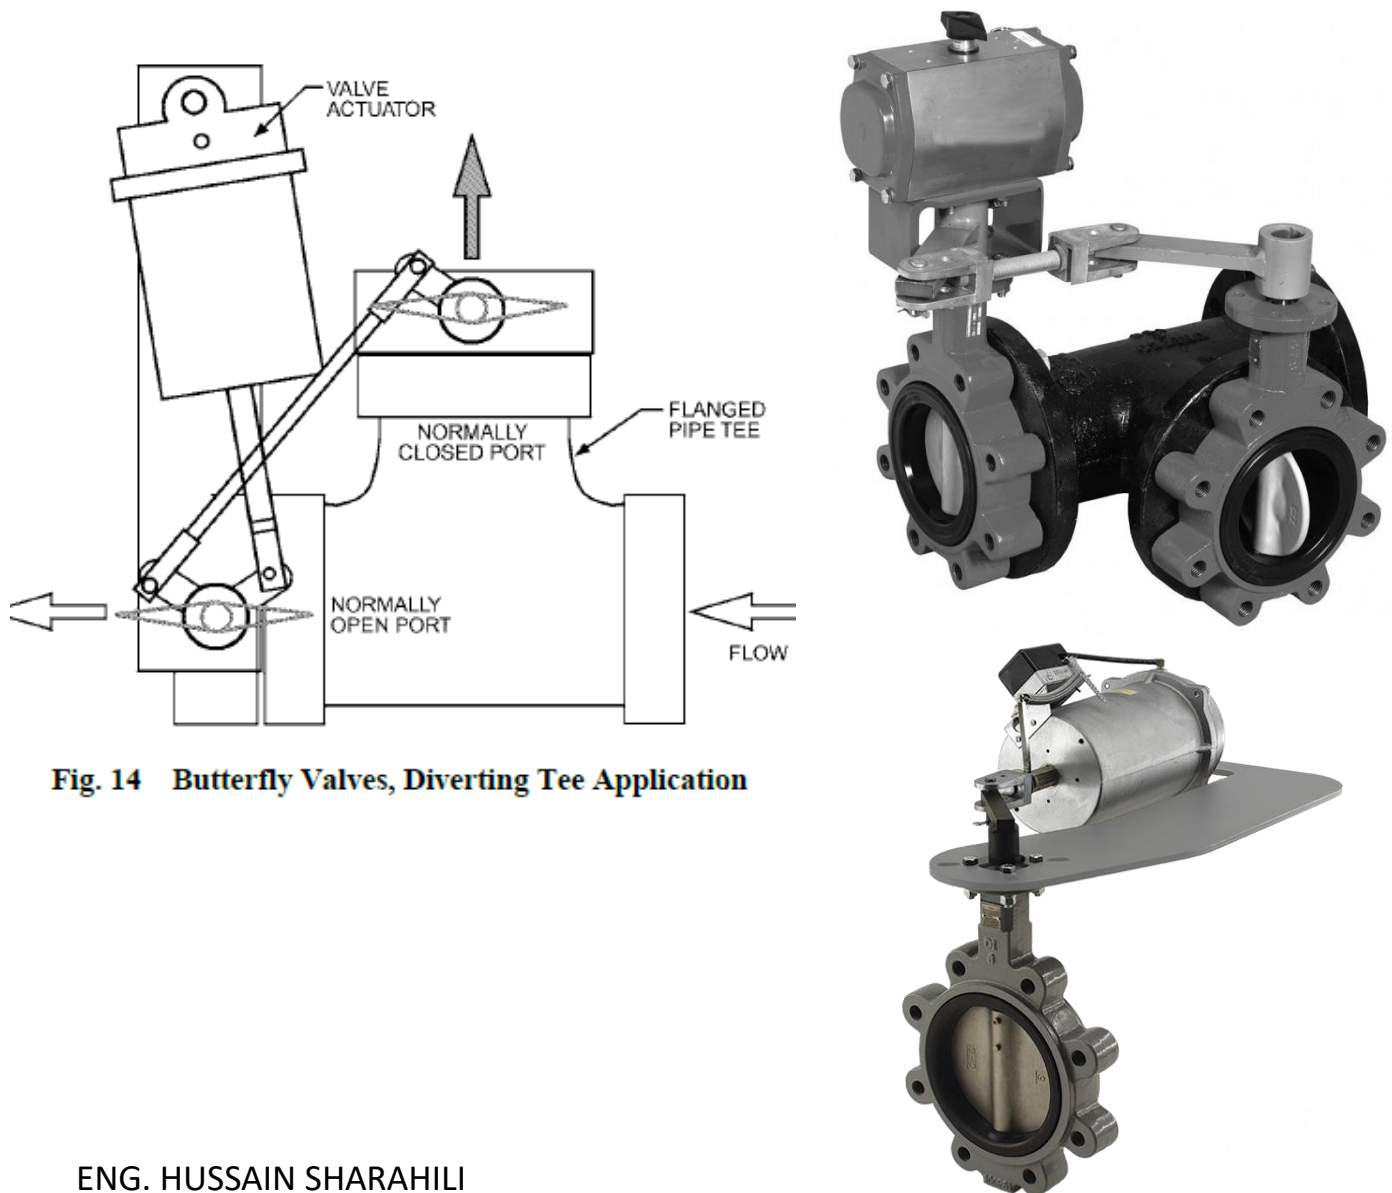

Fig. 14 Butterfly Valves, Diverting Tee Application
- Butterfly valves are manufactured as two-way valves. In some applications where there is a need for a three-way valve application, two butterfly valves are connected to a piping tee and cross-linked to operate as either three-way mixing or three-way bypass valves (Figure 14).